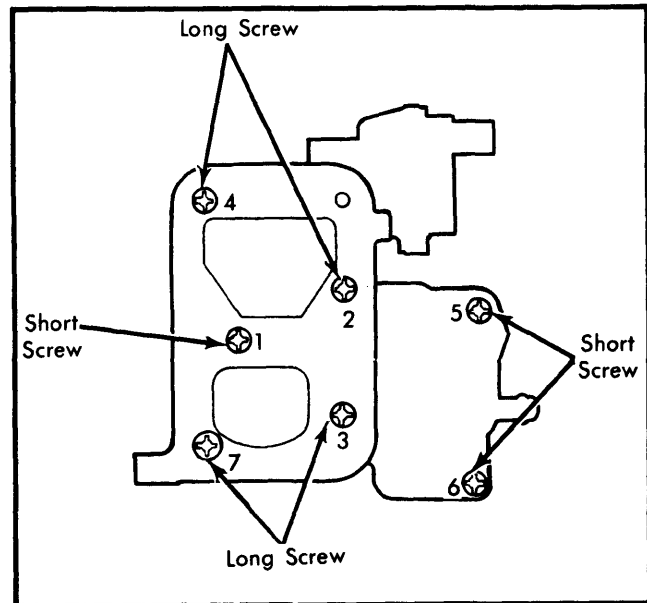

Fig. 13 Air Horn Screw Location and Tightening Sequence
7) Install air horn screws, noting location and type of screw for correct installation. Tighten all screws evenly, securely and in sequence shown in Fig. 13.